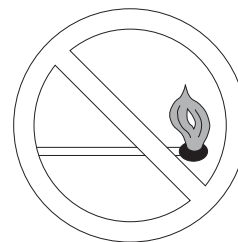

Fig. 3 – Do Not Light Burner with Match
- Set your room thermostat to the lowest temperature setting. (See Fig. 3.)